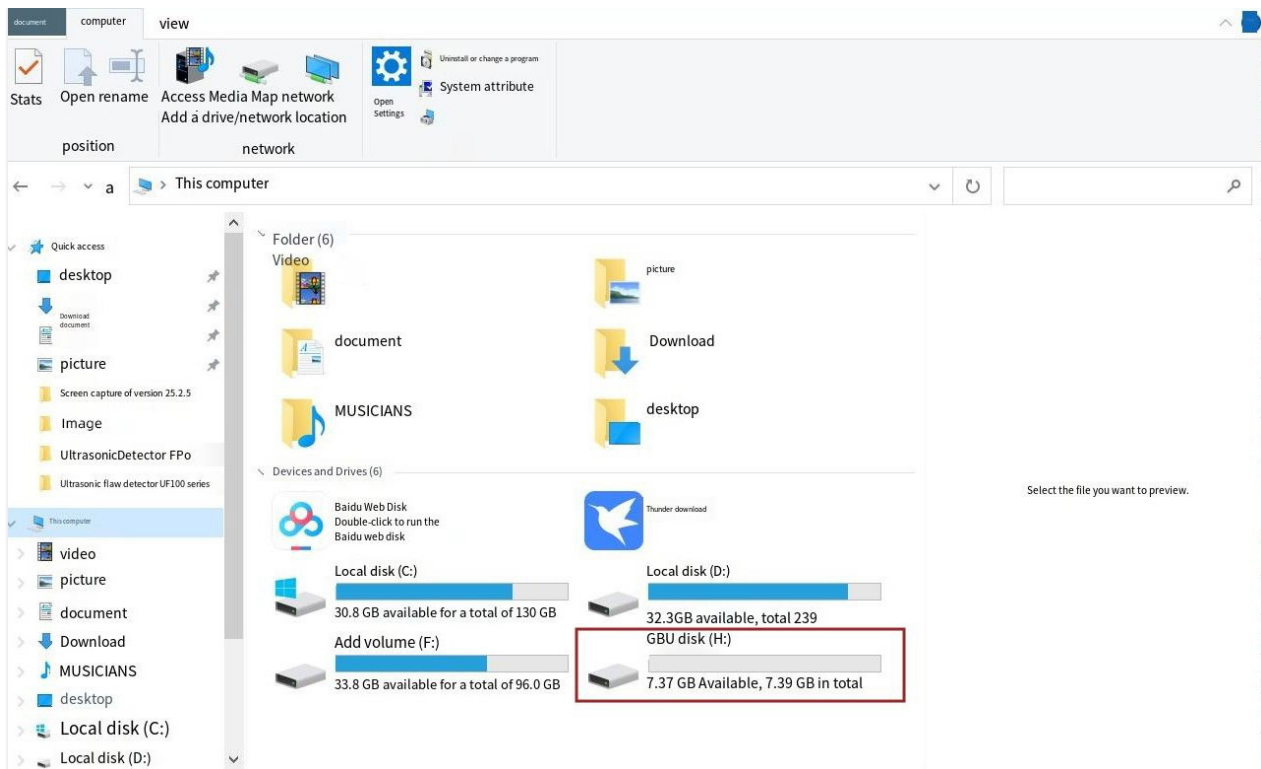

Figure57 Open USB flash disk file
- 2.Click the Open button and select the instrument's USB flash drive file (the instrument must be connected to the computer via the Type-C interface in advance, as shown in Figure 57).